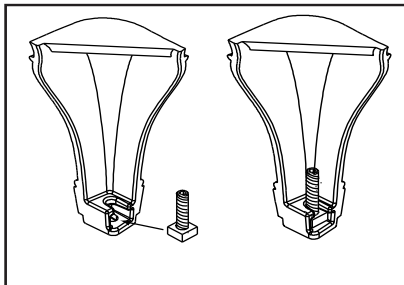

Figure 17.2
2. Slide assembled nuts and bolts into slots on legs with the nuts on the bottom. **Figure 17.2.** Use a 5/32 in. (3.96mm) Allen wrench to adjust legs up and down to desired level. **Figure 17.3**